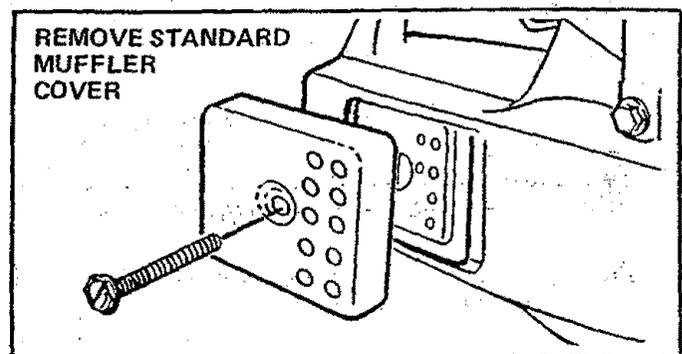

Figure 15
- Remove the screw located in the center of the muffler body. Figure 15.